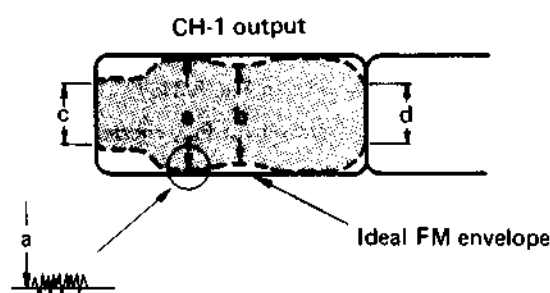

Fig. 5-34 CH-1 FM waveform (max. output)
4. Refer to Fig. 5-34. Read the level of portion (a) of the waveform. If the waveform is serrated at point (a), read the value at the most uniform serrations as shown at left in Fig. 5-34.